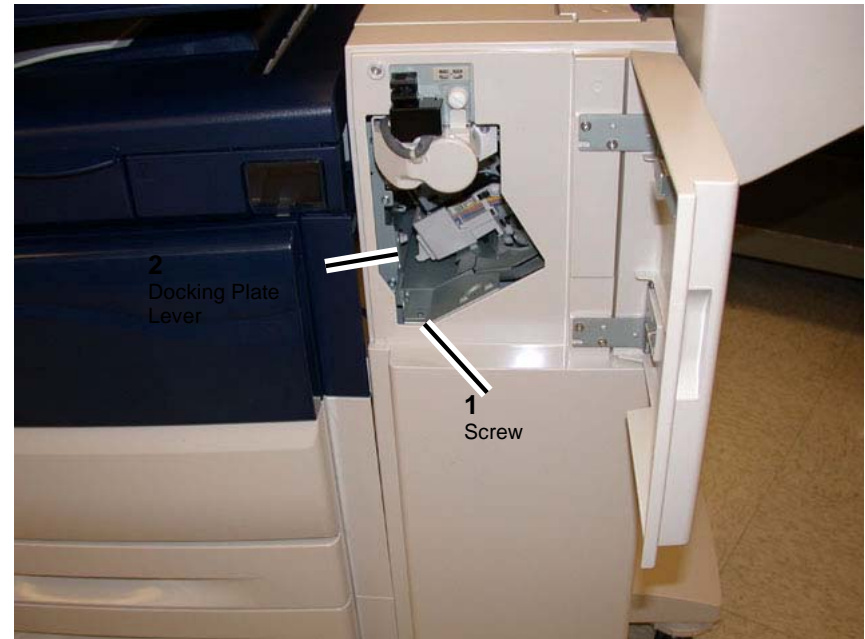

Figure 2 Finisher Lever
- (1) Remove the Screw.
- (2) Pull the Docking Plate Lever towards you and detach the Finisher. (Figure 2)